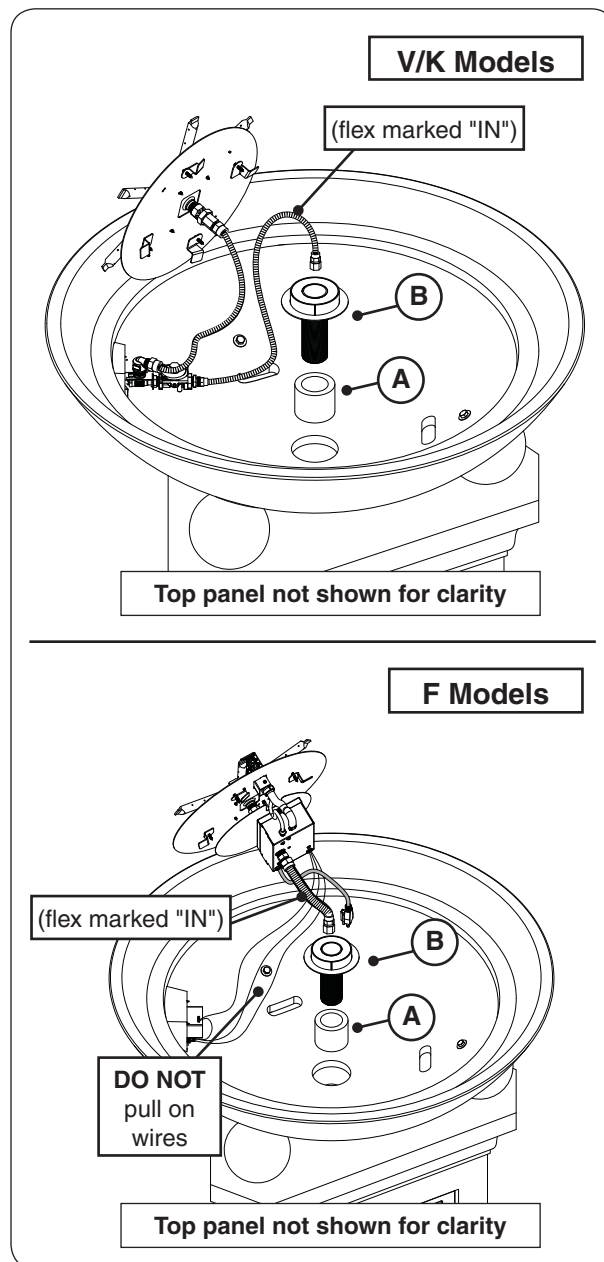

Fig. 28-1 Mount pedestal - insert conduit parts
2. From above the fire bowl, insert the conduit cover into the center opening of the fire bowl (see Fig. 28-1, A).
3. Insert the conduit mount into the cover (see Fig. 28-1, B).